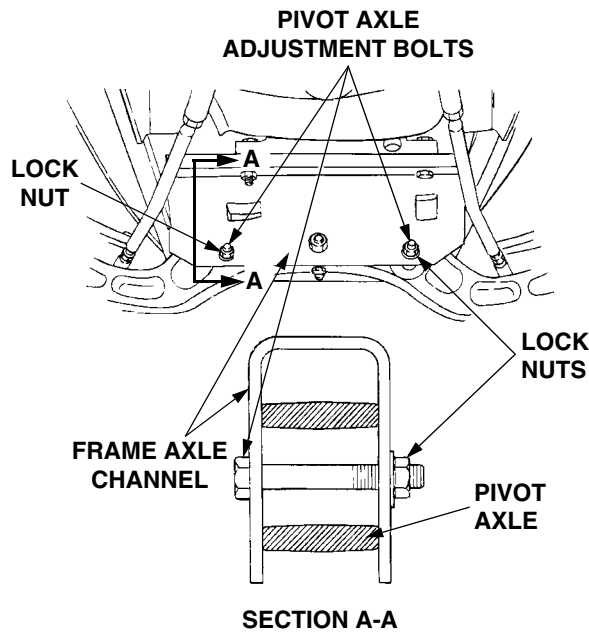

Figure 15
2. Pivot the ends of the axle up and down to check for binding. If the axle is binding, loosen the lock nuts (See Figure 15) until binding is eliminated.